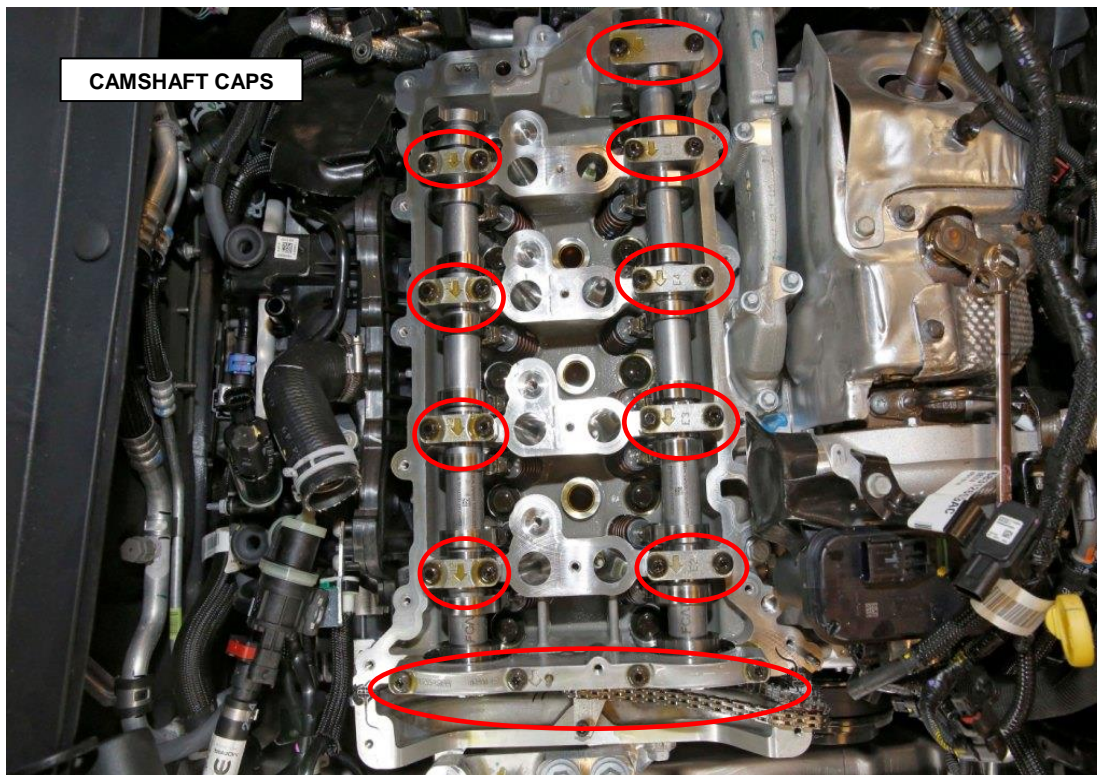

Figure 25 – Camshaft Caps
61. Loosen each of the camshaft cap bolts slightly until the spring pressure is relieved from the camshaft that has been identified with the missing valve stem keeper (Figure 25).